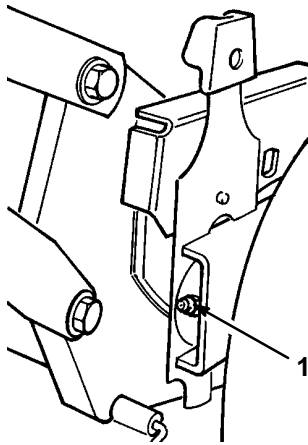

Figure 27
1. Move rear wheel height-of-cut levers to center setting. Wipe grease fittings with clean rag (Fig. 27). Install grease gun onto fitting and gently apply 2 or 3 pumps of #2 Multi-Purpose Lithium Base Grease. Excessive grease pressure may damage seals.